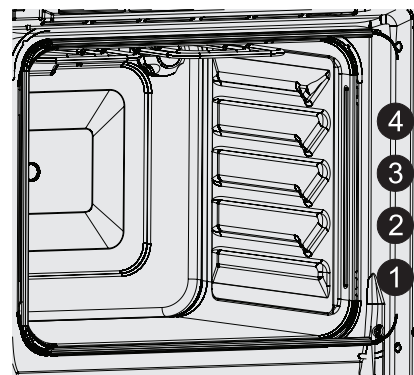
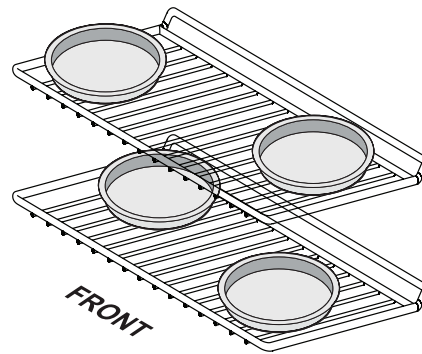

Figure 13: Oven rack positions
Figure 15: Baking with multiple levels & racks
- For best results when baking with one oven rack, place racks in positions 2 or 3 (Figure 13).
- For best results when baking cakes or cookies using two oven racks, place racks in positions 1 and 3 (Figure 13) and place pans as shown in Figure 15.